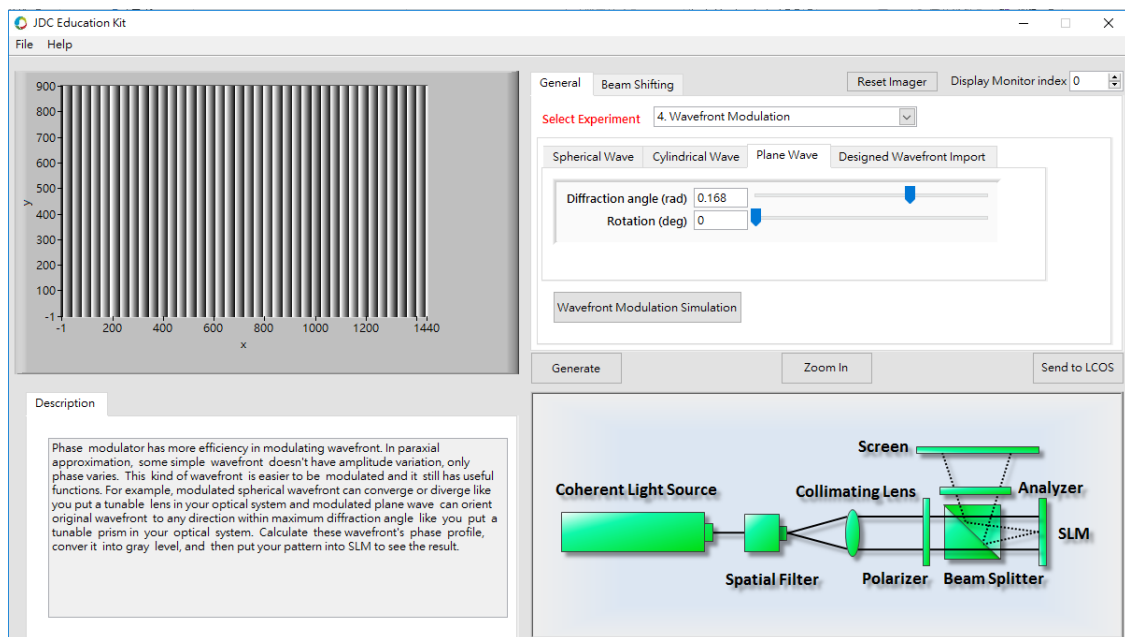

Figure 4
2. Open the EDK software. Select 1 for the Monitor Index in the upper right corner. Select experiment to 4. Wavefront modulation. Select the Plane Wave tab, set the Diffraction angle to 0.168 and press the Generate button, you can see the result shown in Figure 4. Then press the Send to LCOS button to transfer the image to the SLM.